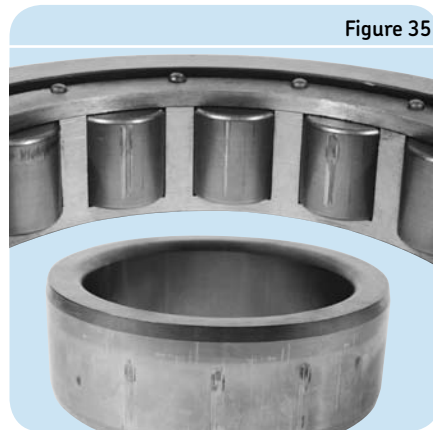

Figure 35
*False-brinelling* damage also occurs at ball/roller spaced intervals as shown in **Figure 35**. However, since it is caused by vibration, when looked at under magnification, the grinding lines are no longer present, as shown in **Figure 36**. False brinelling will also lead to increased noise and vibration depending upon the severity.